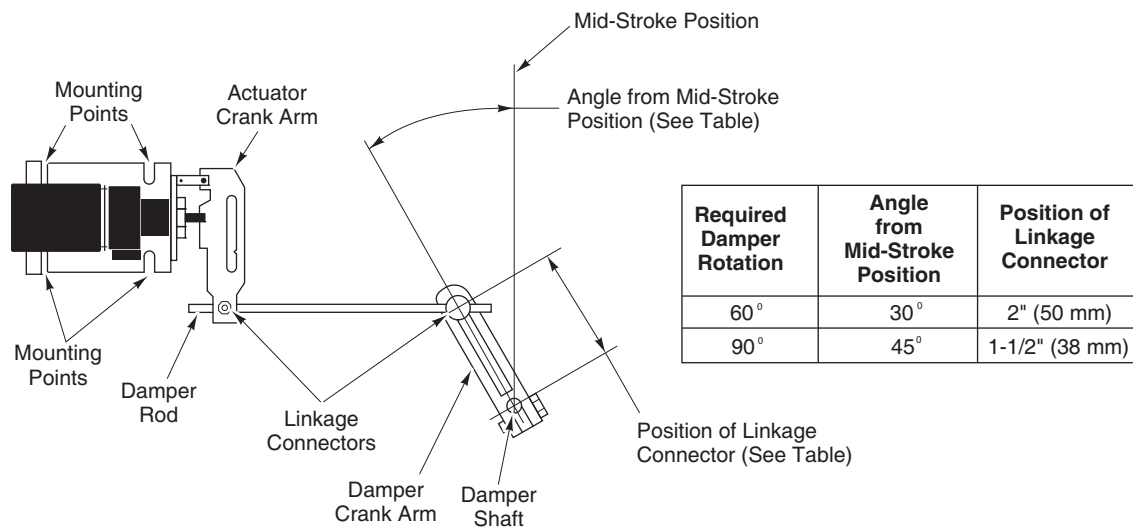

Figure-15 Actuator/Damper Mounting.
- c. If possible, select a mounting position such that, at mid-stroke, the actuator crank arm and the damper crank arm on the drive shaft are each at a 90° angle to the damper rod (refer to Figure-15). This is the recommended mounting position. It may be necessary to swivel the actuator linkage to arrive at this mounting location.
- Mount a ball joint connector in the slot on the damper crank arm. To achieve 90° of damper rotation, position the connector 1-1/2" (38 mm) from the centerline of the shaft hole on the crank arm. For 60° of damper rotation, position the connector 2" (50 mm) from the shaft hole centerline. Typically, 60° to 70° of rotation (maximum is 90°) is sufficient to permit almost maximum air flow through the dampers. Refer to Figure-15.
- Rotate the damper to its open position. Install and secure the damper crank arm (with ball joint connector) to the damper shaft, positioning the crank arm as follows (refer to Figure-15):